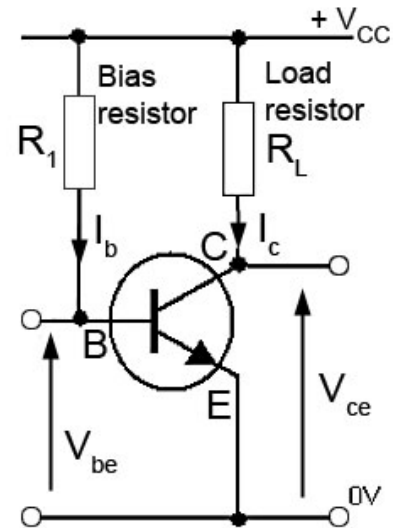

Fig 1.2.1 Simple bias for a common emitter amplifier.
Consider the simple bipolar NPN common emitter amplifier shown in Fig. 1.2.1 consisting of a transistor and two resistors. To function correctly the amplifier should produce at its output, an amplified version of the signal at its input without distortion. In order to do this, its quiescent or no signal (DC) conditions, must first be correct. Its output can only be undistorted if its input is undistorted.
It can also be seen that for this transistor, a DC base bias voltage (R_B) of 0.7V produces a quiescent (DC) base current of $40\mu A$. These values are set by the correct choice of resistance value for R_B (Fig. 1.2.1).
Design the DC fixed bias conditions for the simple class A common emitter amplifier shown in Fig. 1.2.1, assuming a supply voltage (V_{cc}) of 10V using a transistor with a common emitter current gain (h_{fe}) of 200.
While the design described in Fig. 1.2.1 is simple and requires a minimum of components, there are some problems that need to be overcome for practical use.